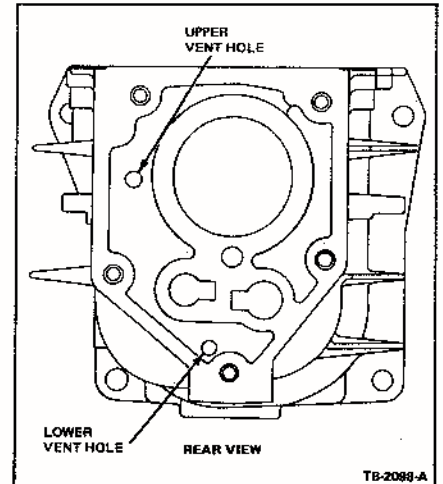

Fig. 28 — Article 865
4. Check for blockage of the two drain holes at the 6 o'clock positions (Figure 28).